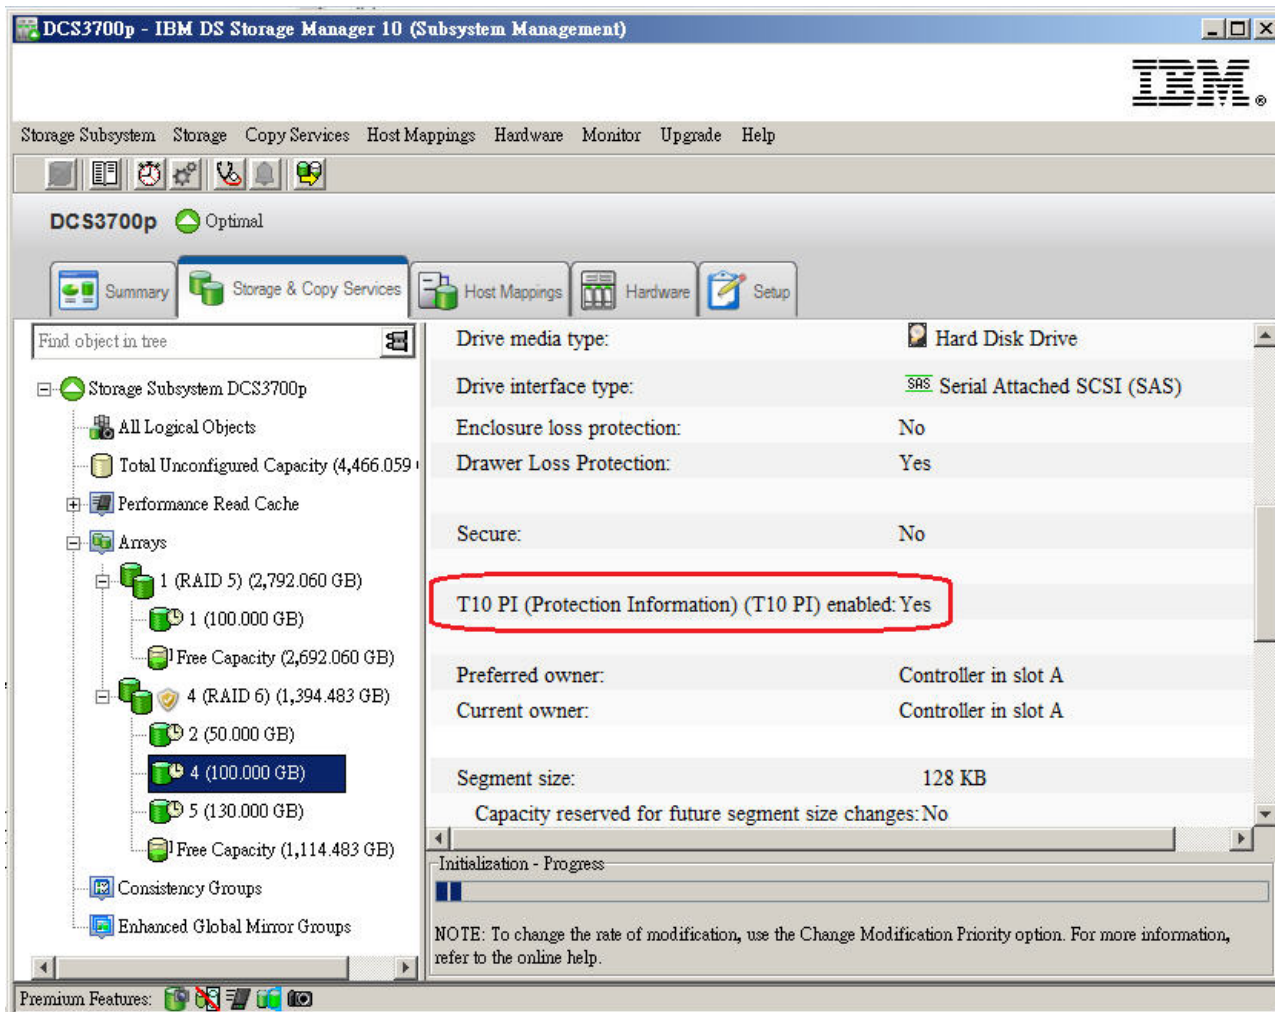

Figure 6. RAID drive - Protection Information (T10 PI) - enabled
**Note:** An additional parameter also exists on the appropriate SMcli commands to indicate whether a logical drive is created with T10PI enabled. Figure 6 on page 62 shows a RAID array and its logical drive that has T10PI functionality enabled. The shield icon indicates that the array is a T10PI capable RAID array.